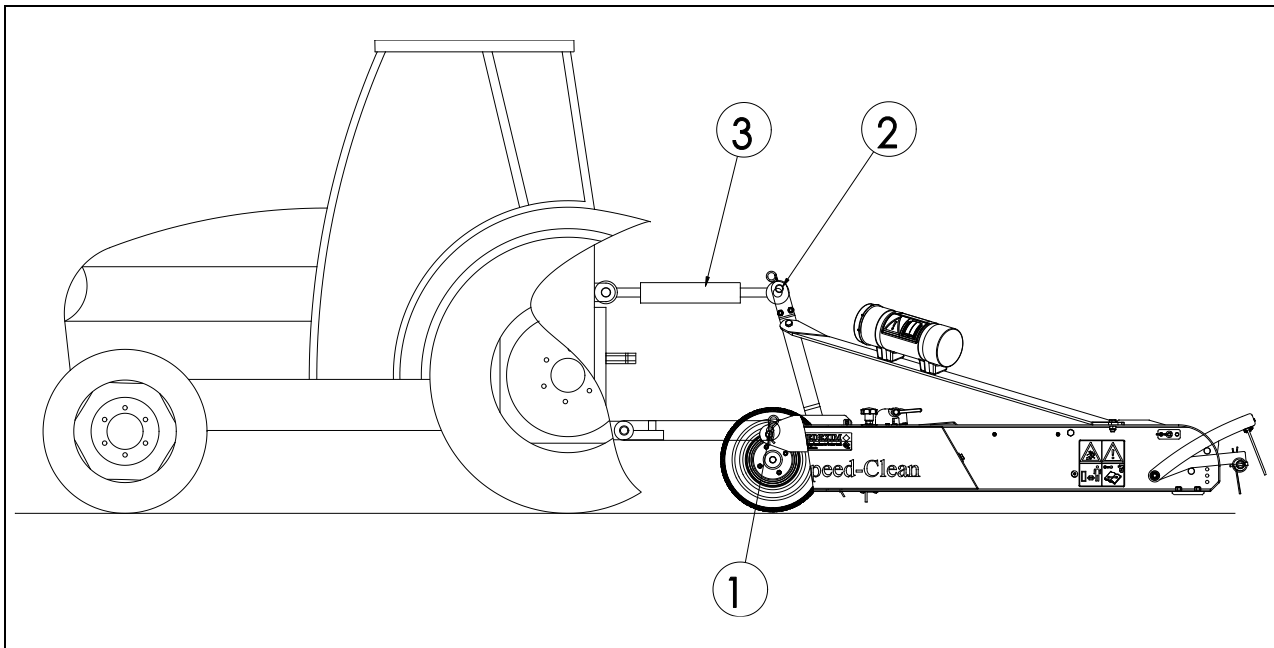

Fig. 7
The method is as follows: (Fig. 7)
**Make sure that the upper forestay is connected and under tension in the transport position! See fig. 7**